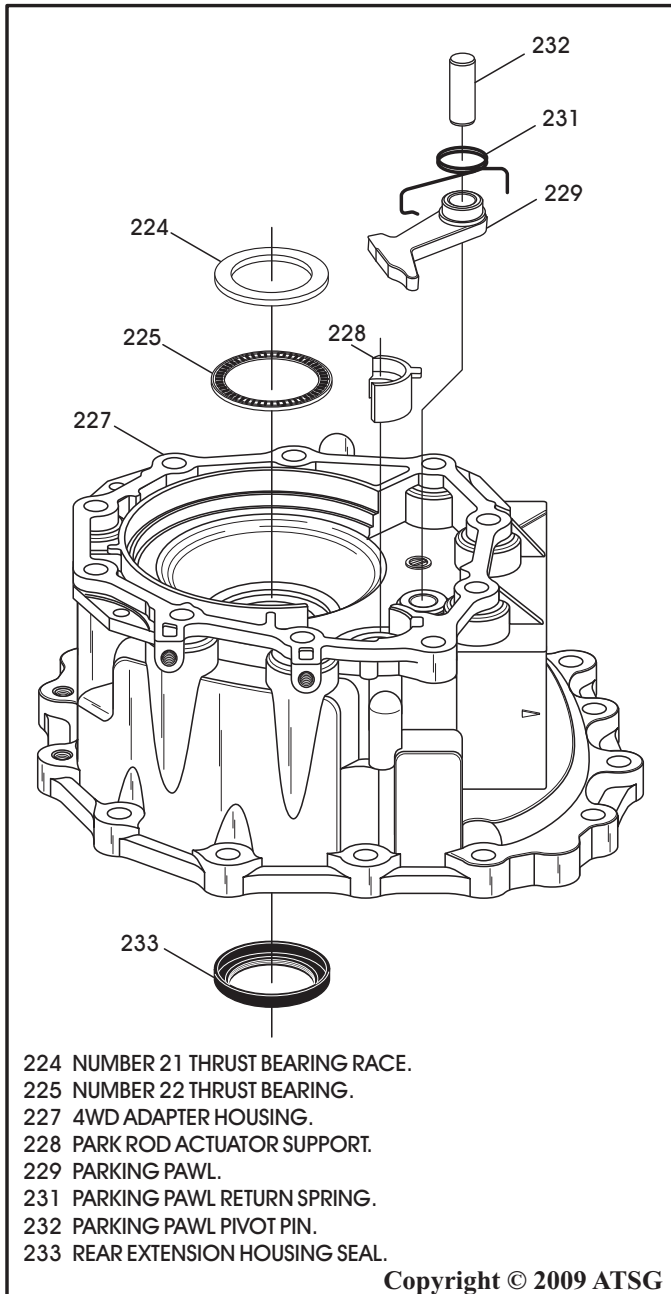

Figure 149
1. Disassemble the 4WD adapter housing using Figure 149 as a guide.